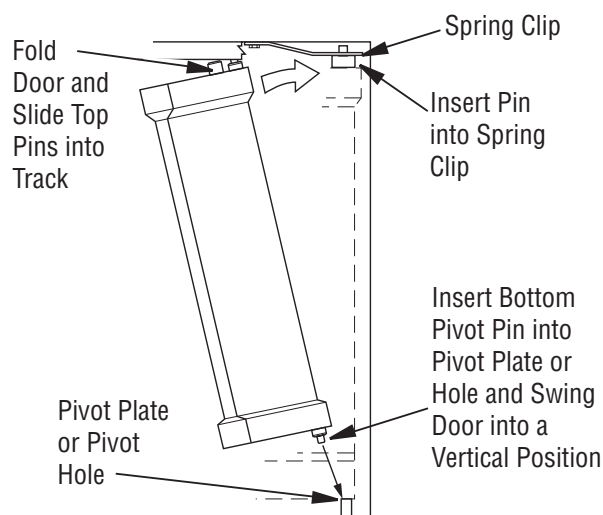

Figure 8: Installing Bi-Fold Glass Door
1. With bi-fold door completely folded, insert bottom pivot pin into pivot plate or pivot hole located near bottom corner of front face opening and swing door to the vertical position making sure top pins slide into door track. Door is installed when top door pin snaps into spring clip (see **Figure 8**).